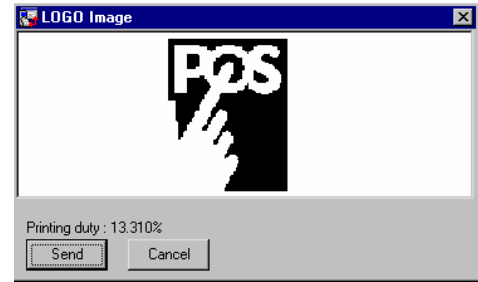

Figure 11
6. If the image is the valid, then click the [Send] button to initiate sending the image to the ER-A520/530. (Fig. 11)